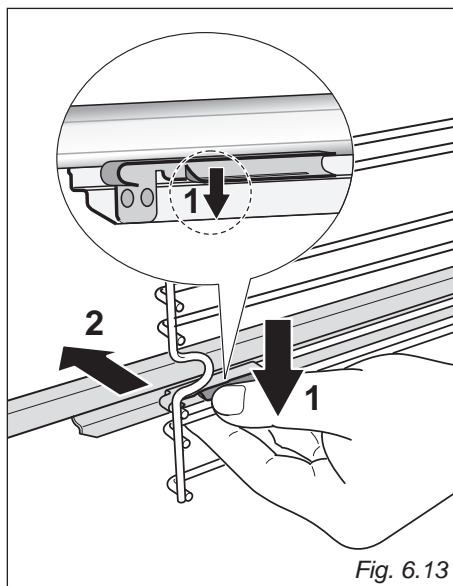

Fig. 6.13
- Find the safety locks. These are the tabs that clip over the fixing wire (arrow 1 in fig. 6.13).
- Pull the safety locks away from the fixing wire to release the sliding guide (arrow 2 in fig. 6.13).